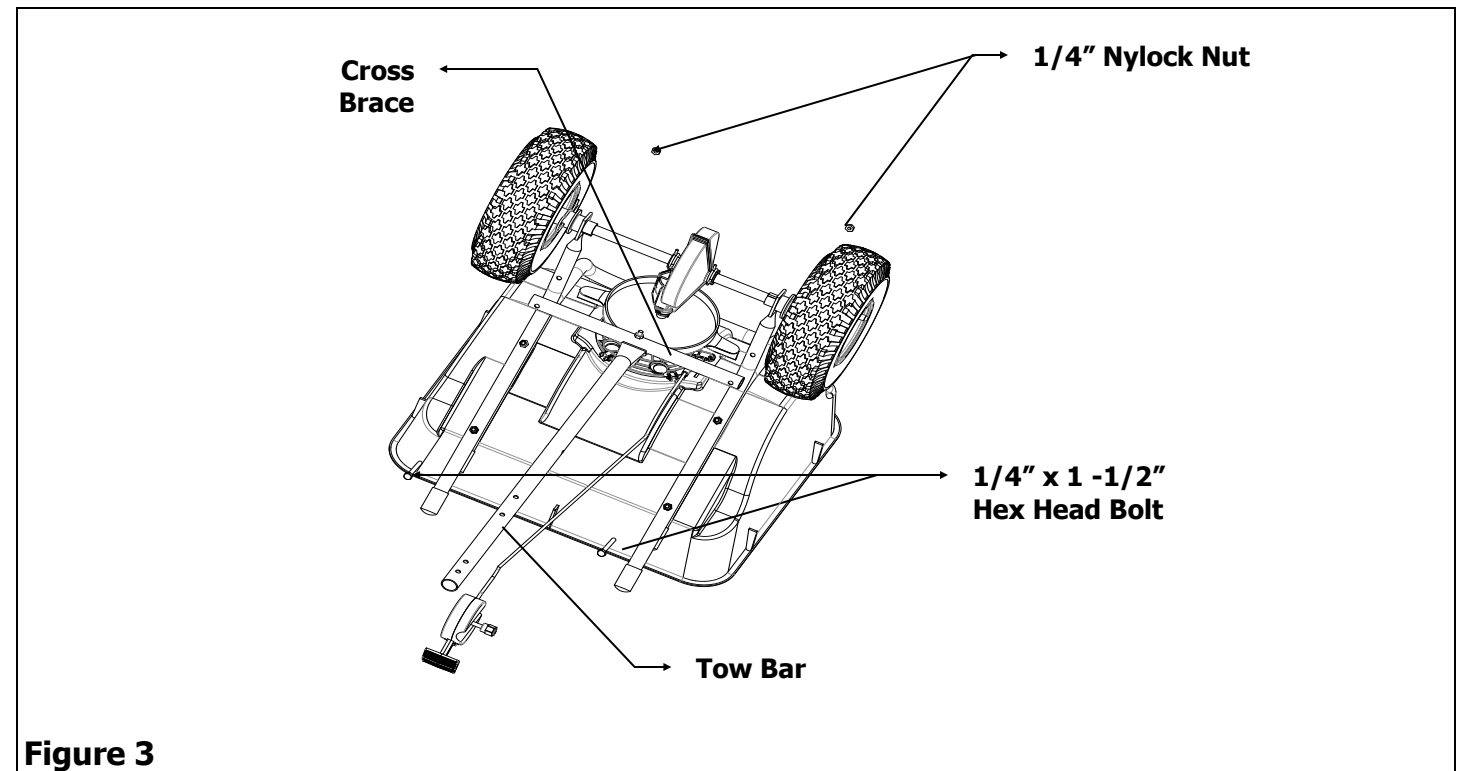

Figure 3
3. Attach both Support Brackets to the Hopper Supports where the two bolts are exposed towards the top of the Hopper. Secure each with a 1/4" Nylock Nuts. Connect the two Support Brackets to the Tow Bar using a 1/4" x 1-1/2" Hex Head Bolt and secure with a 1/4" Nylock Nut. See Figure 3.